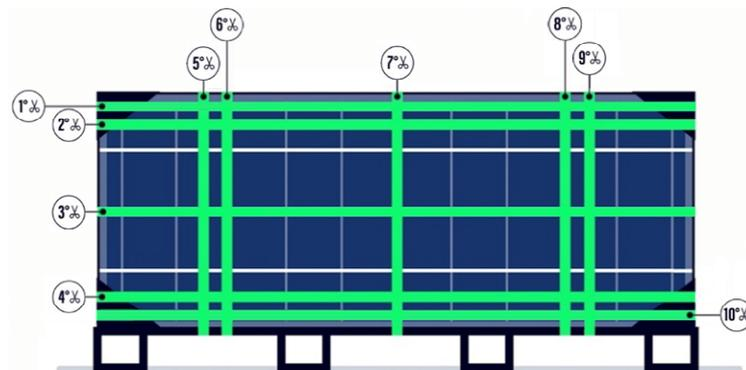

Figure 16: Positions of internal straps.
- c) Cut nine of the internal straps. First cut the horizontal straps #1, #2, #3, #4 (Figure 16), then cut the vertical straps #5, #6, #7, #8, #9, in any order. Do not cut strap #10 until step e).